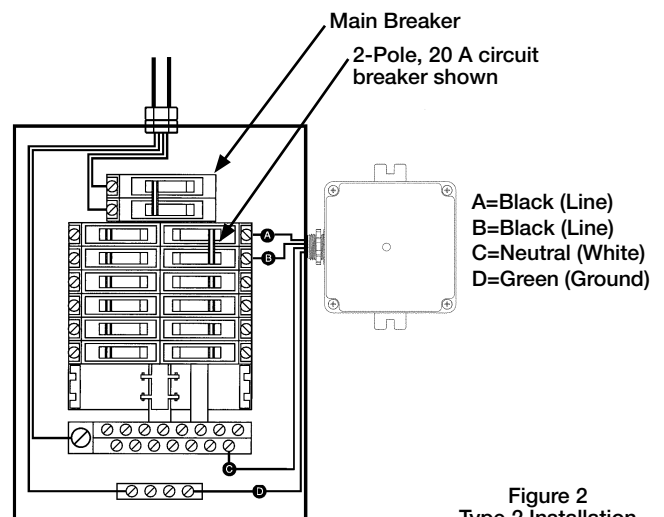

Figure 2
3. Connect the white wire from the SPD to the neutral bus bar in the panel as shown in figure 2.
4. Connect the two black wires to a circuit breaker as shown in figure 2. For best performance from SPD the maximum recommended circuit breaker size of 240 V, 20 A, 2-pole should be used.